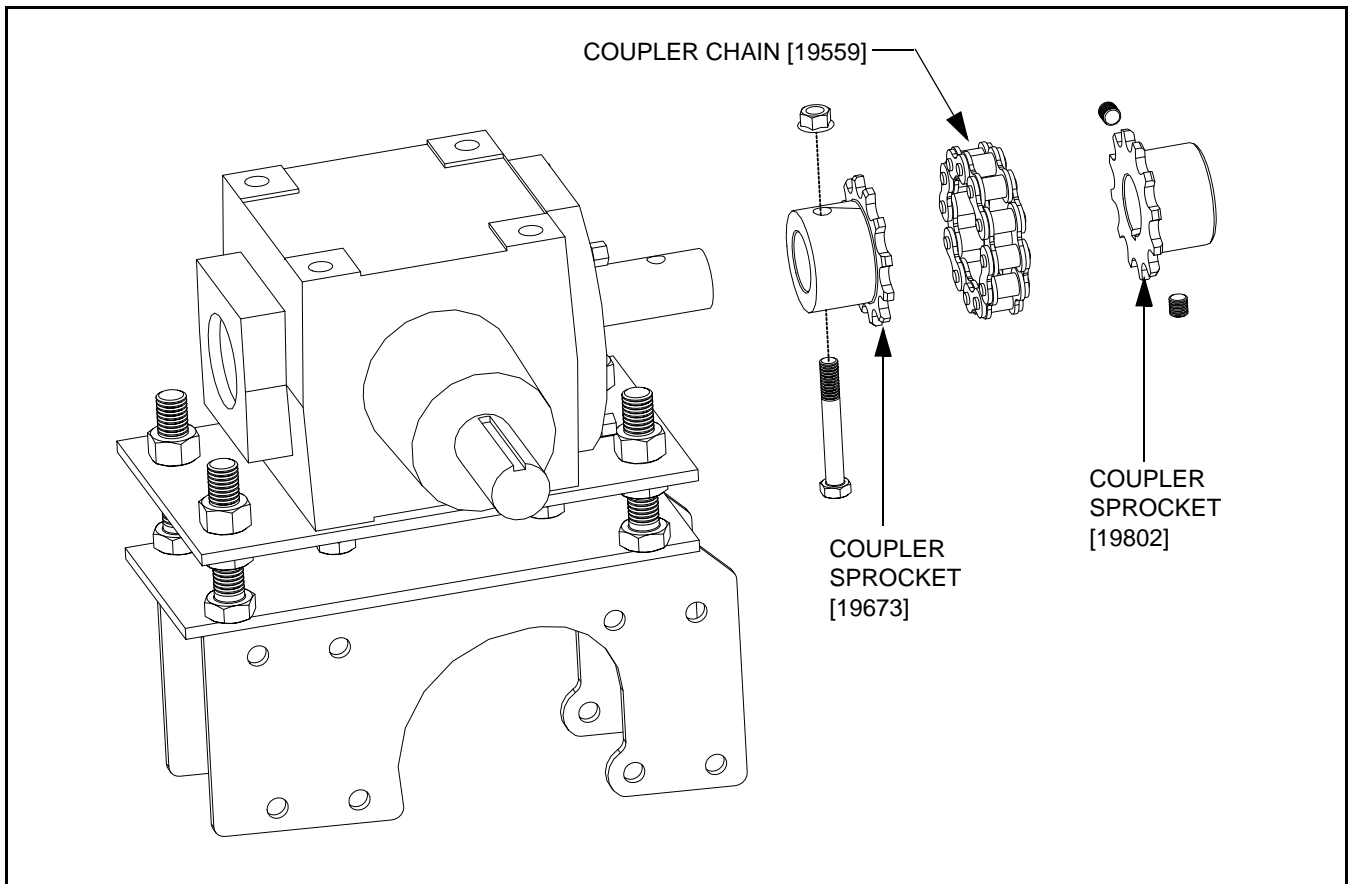

Figure 2 Removing Coupler Chain from Sprockets
1. Remove coupler chain from coupler sprockets as shown in Figure 2.